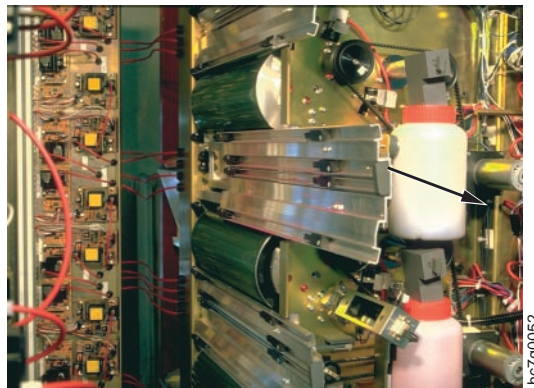

Figure 265. Removing a TED Assembly
7. Each tower has four TED assemblies. Remove each TED assembly by sliding it carefully out of the guide bars, as shown in Figure 265.